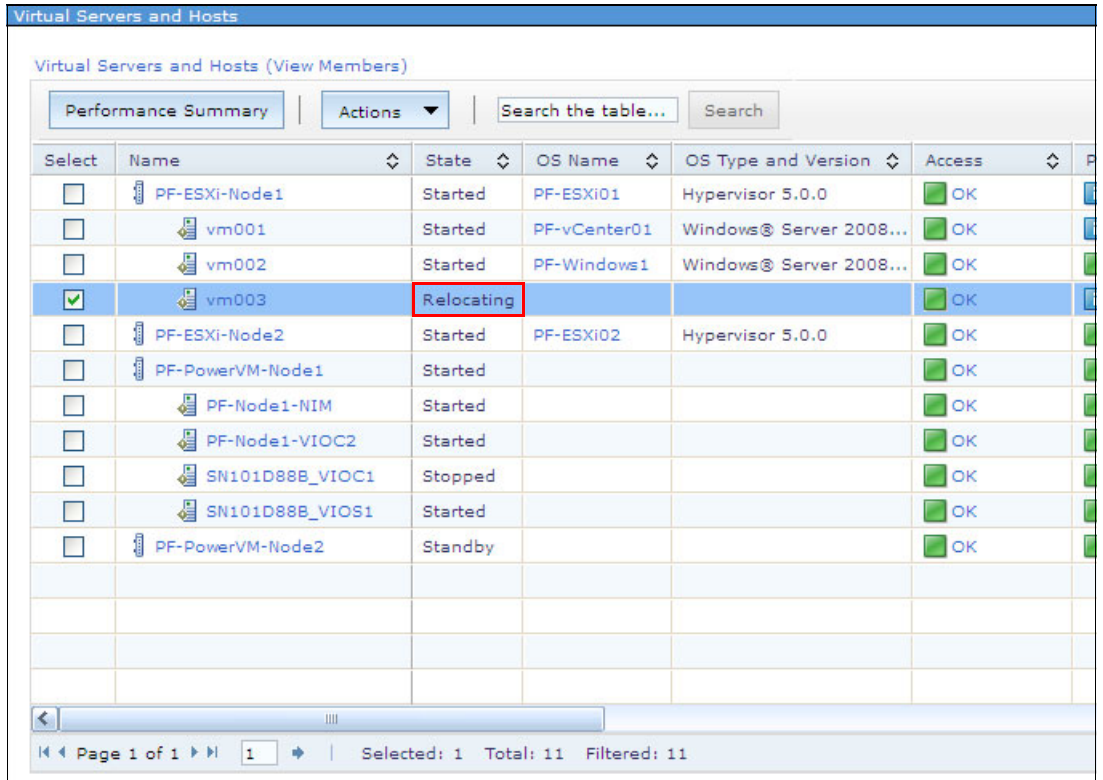

Figure 11-29 Virtual Servers and Hosts window that shows a virtual server in the Relocating state
6. The virtual server Status in the Virtual Servers and Hosts window changes to Relocating during the relocation from PF-ESXi01 to PF-ESXi02, as shown in Figure 11-29.